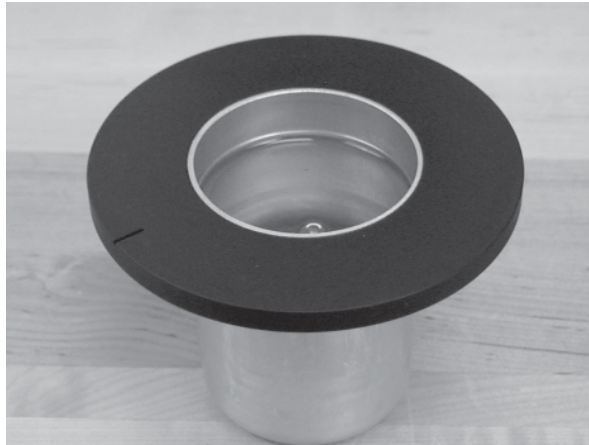

Figure 7: Sample cup with liquid level at fill line
1. Fill a clean sample cup to the fill line indicated on the inside of the cup (see Figure 7).